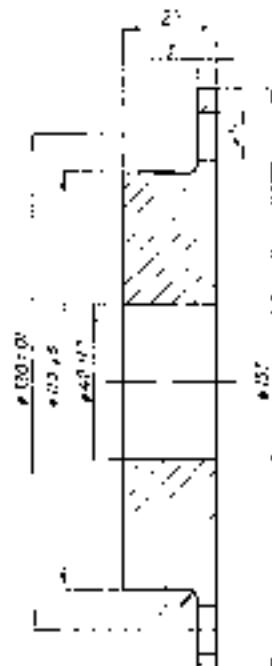

Fig. 30.
To facilitate this job, make two plate fixtures as shown in drawing (see Fig. 30), install the fixtures and the apertures taking the bearings of the differential, splined shafts, securing each bearing by means of a 1/2" X 12 x 20 threaded in length, install the differential sleeve into the apertures and fit it in the differential assembly.
- Install into the boxes taking the bearings of the splined differential shafts the plate-shaped fixators (see Fig. 30). Hold the differential assembly so as to ensure the fitting of the differential shaft (see Fig. 34).